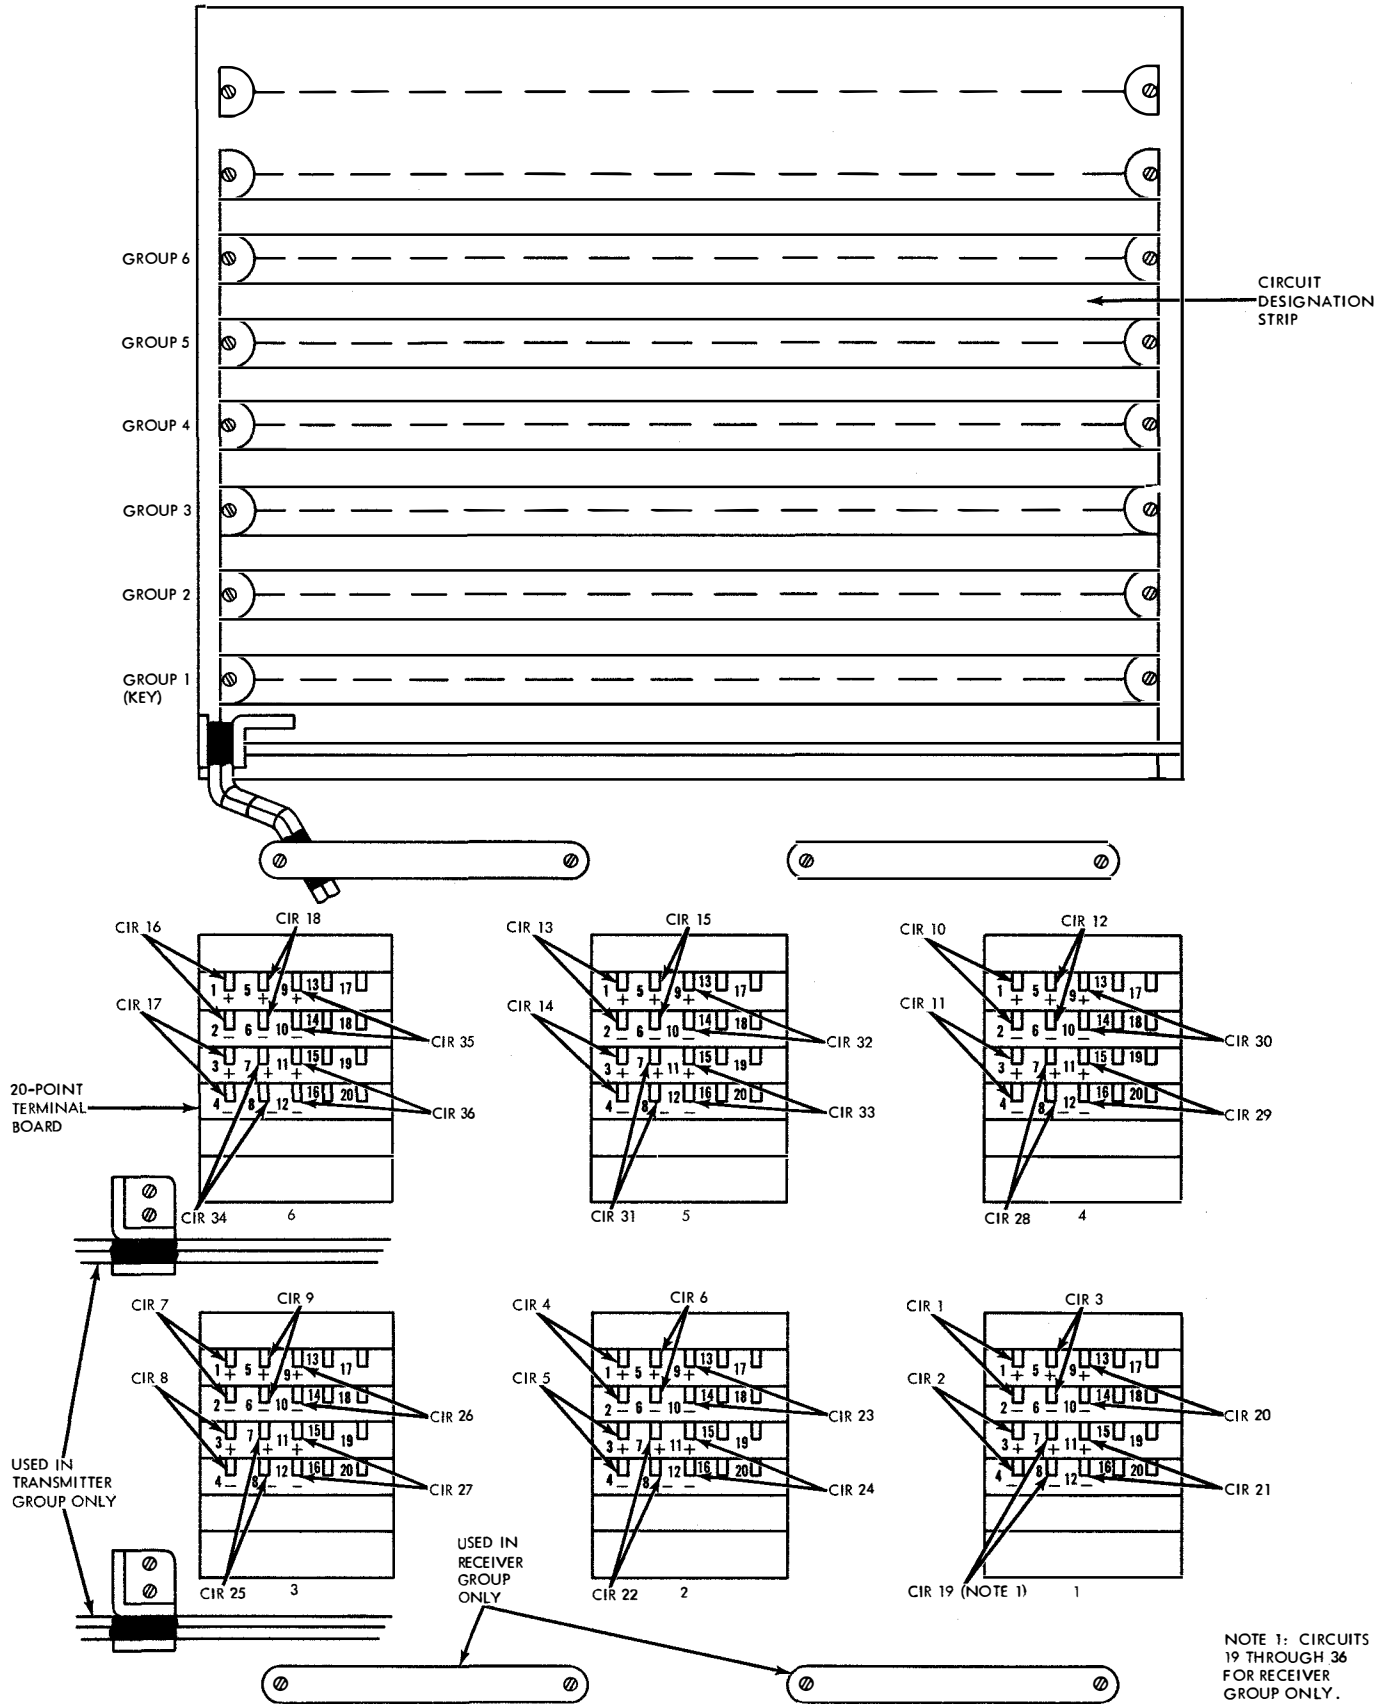

Figure 3-8. KEY Group Jack Frame and Terminal Blocks
2. Mount the jack strip and terminal boards on each interconnecting receiver cable and the designation strips from each receiver cabinet on the patching frame of the key cabinet for that group in the position shown in figure 3-8. The designation strips should be installed below the associated jack strips.
6. See figure 3-8 and table 3-2 if additional line positions are to be used.
2. Mount the jack strip and terminal boards of each transmitter cabinet and the designation strips from each transmitter cabinet on the patching frame of the key cabinet for that group in the positions shown in figure 3-8.